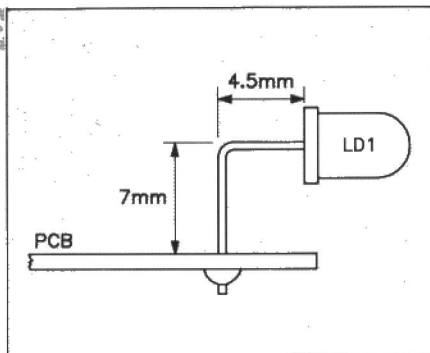

Figure 5. Fitting the LED.
Next mount the PCB connectors SK1, 5, 6 and 7 ensuring that they are pushed firmly against the board. When mounting the red LED, LD1, it *must* be 7mm above the board and bent over at 90°, see Figure 5. The LED has a short lead and a flat edge on one side of its case to identify the cathode (K) connection.